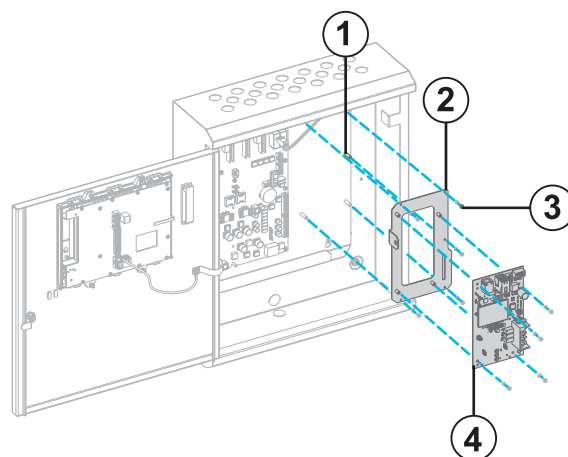

Fig. 35: Mounting boards on the FC702S panel
- 1 Attach an A16381TMRV mounting plate, item 2 in Fig. 35, to the pillars in the CIE case using five M3 screws, item 3. If there are other cards in the stack, they might also need the M3 x 25 pillars.
- 2 Attach the CSG PCBA, item 4, to the plate using M3 screws, item 3.